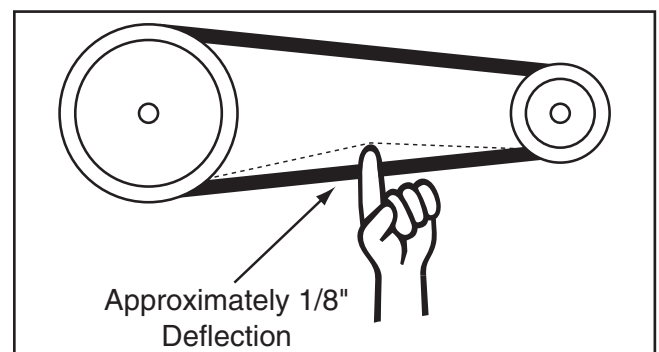

Figure 51. Checking for belt deflection.
3. The V-belts tighten uniformly because of the idler pulley. Rotate the adjustment bolt until the V-belt has approximately $\frac{1}{8}$ " of deflection when moderate pressure is applied midway between the pulleys (see **Figure 51**), then re-tighten the jam nut and close the V-belt cover.